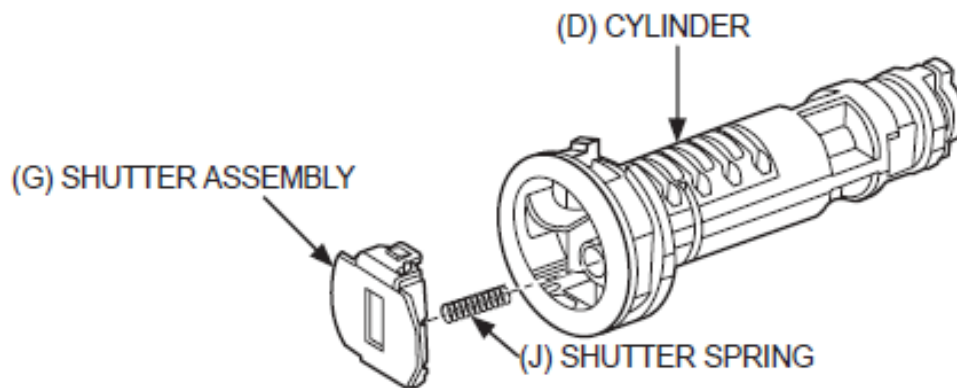

FIGURE 2
1. Insert the shutter spring (J) into the round hole at the front of the lock cylinder (D) (refer to Figure 2), if not installed already.
2. Insert the shutter assembly (G) into the rectangular depression with notches at the long ends, located at the front of the lock cylinder (D) (refer to Figure 2), if not installed already.
5. Insert the required Tumblers (B1 – B10) into the tumbler slots (top-side) in the proper orientation (refer to Figure 2), and in the sequence that match the key cut depths for stations 4 – 10.